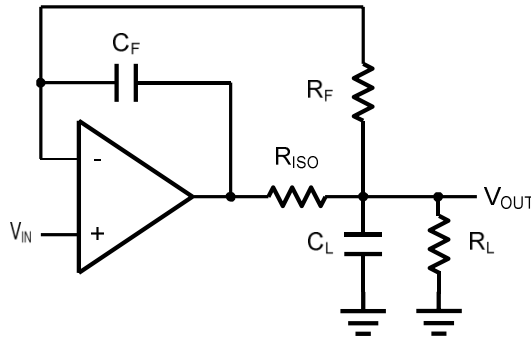

**Figure 2 Indirectly Driving a Capacitive Load Using Isolation Resistor**
The HGV6001 family is optimized for bandwidth and speed, not for driving capacitive loads. Output capacitance will create a pole in the amplifier's feedback path, leading to excessive peaking and potential oscillation. If dealing with load capacitance is a requirement of the application, the two strategies to consider are (1) using a small resistor in series with the amplifier's output and the load capacitance and (2) reducing the bandwidth of the amplifier's feedback loop by increasing the overall noise gain. Figure 2 shows a unity gain follower using the series resistor strategy. The resistor isolates the output from the capacitance and, more importantly, creates a zero in the feedback path that compensates for the pole created by the output capacitance.
The circuit in Figure 3 is an improvement to the one in Figure 2.  $R_F$  provides the DC accuracy by feed-forward the  $V_{IN}$  to  $R_L$ .  $C_F$  and  $R_{ISO}$  serve to counteract the loss of phase margin by feeding the high frequency component of the output signal back to the amplifier's inverting input, thereby preserving the phase margin in the overall feedback loop. Capacitive drive can be increased by increasing the value of  $C_F$ . This in turn will slow down the pulse response.